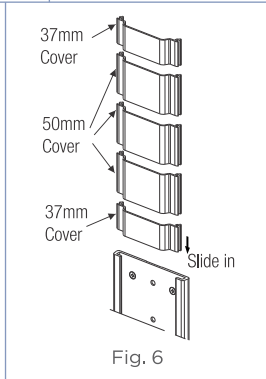

Fig. 6
6. Slide in two 37mm cover & multiples of 50mm cover to the Vertical Track to attain the desired height as shown in Fig. 6.
8. Repeat the procedure of Fig. 6.